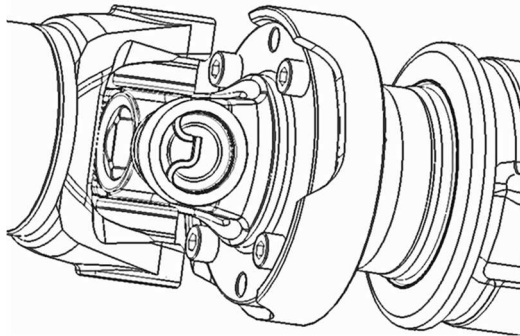

Figure 1
- 3) Install the four bolts as shown in figure 1 below. Don't fully tighten until you make sure the flange is seated. It might help to apply the parking brake while threading them in.